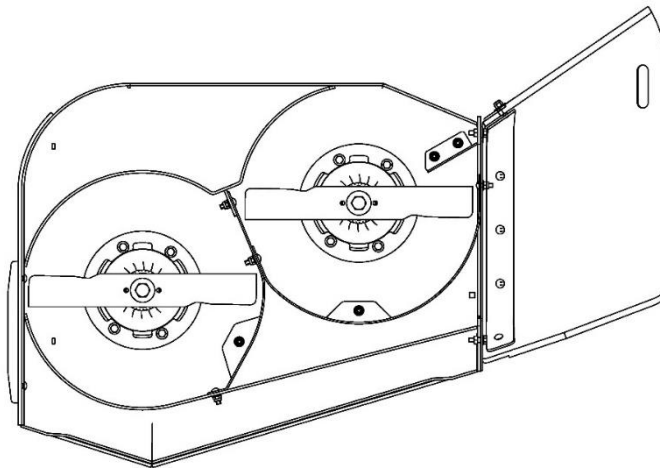

Fig. 3
5. Make sure the blades are positioned as shown in Fig. 3.